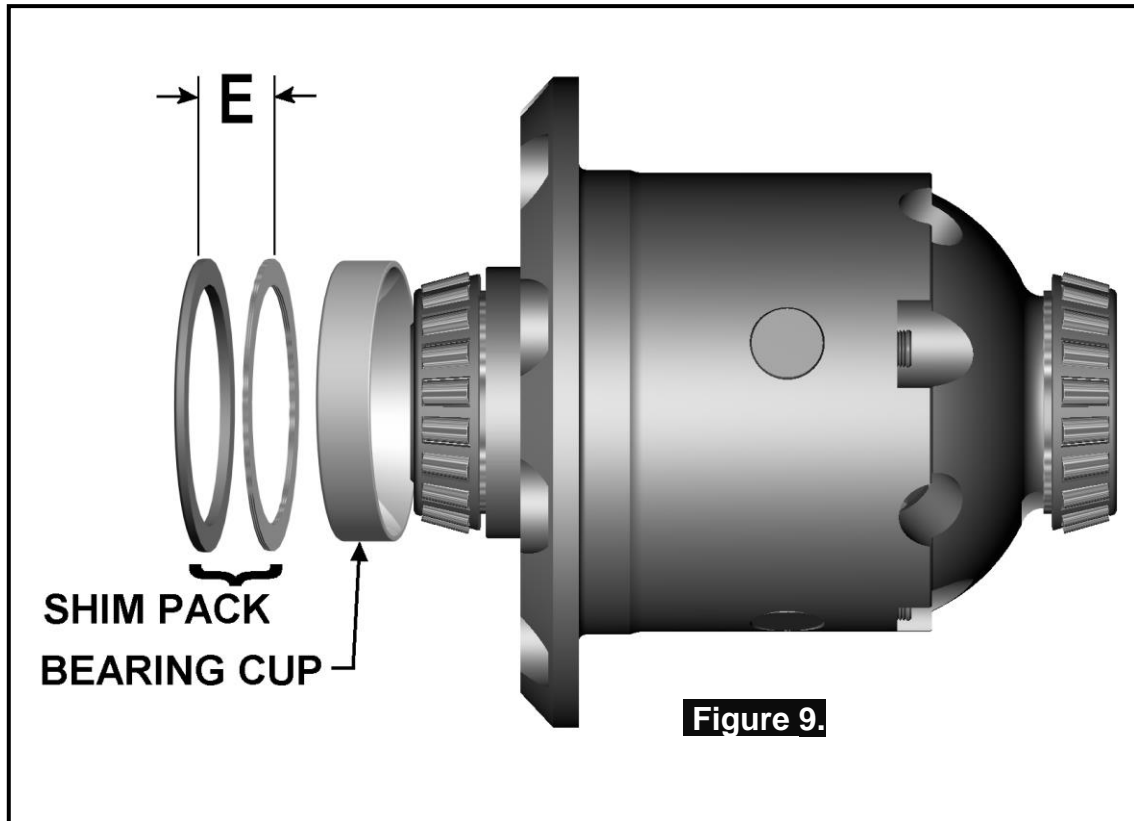

Figure 9.
In order to preload the tapered roller bearings in your *Air Locker*, measurements need to be taken so that a value can be calculated for the total shim thickness 'E' in Figure 9.
- Add the specified preload amount to the end float measurement determined with the feeler gauge to determine a shim amount for 'E' (Refer to Figure 9.).
- Assemble the shim pack 'E' (Fig.9.) into the bearing bore of the shallow half of the clamshell.